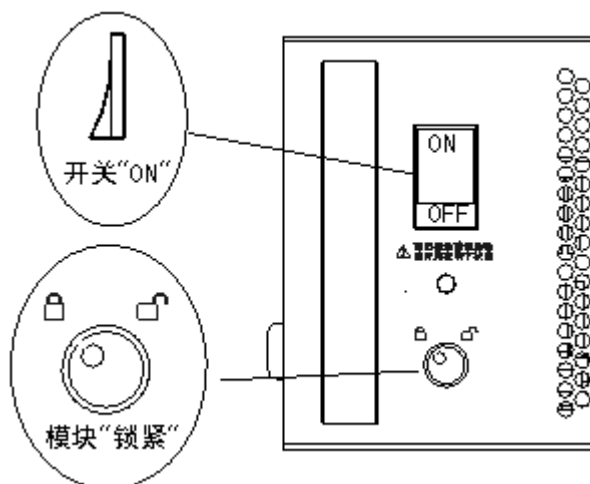

Fig. 9.1
1. Check the position lock located on the front panel of the installed UPS module. Make sure that the position locks of all of the modules are in the “” position and set the input breakers of all of the installed UPS modules to the ON position (Fig. 9.1) .
1. Check the position lock located on the front panel of the installed UPS module. Make sure that the position locks of all of the modules are in the “ ” position and set the input breakers of all of the installed UPS modules to the ON position (Fig. 9.1) .